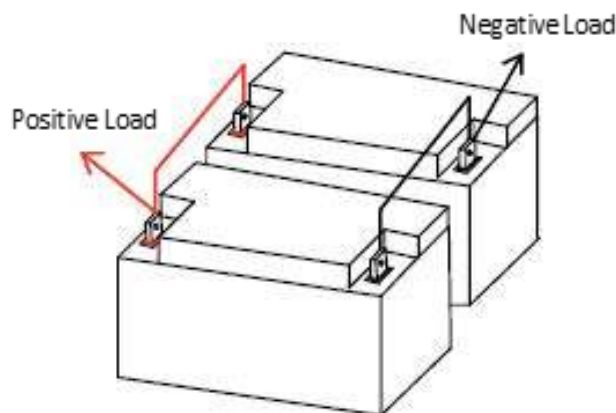

Figure 3: Two BB10012/H Batteries connected in Parallel to create a 12V 200Ah Battery Bank
Multiple BB10012/H batteries may be connected in parallel to increase the capacity and current of the system. When batteries are connected in parallel, the voltage of the system does not change, but the capacity and current limits are additive. For example, two BB10012/H batteries connected in parallel (shown in Fig. 3) create a 12V 200Ah bank that can deliver 200A continuously and 400A for 30 seconds.
7. Repeat steps 3-6 for additional batteries in the system. An example of a finished connection can be found below in Fig. 3